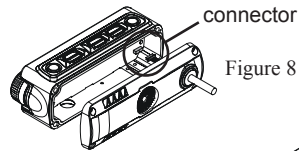
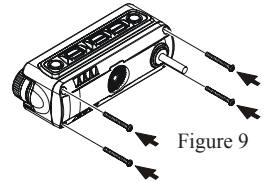

Figure 8
Figure 9
7. Attach the Connection Cable to the Printed Circuit Board (Figure 8), and then replace the Rear Case to the Front Panel using the previously removed four screws (Figure 9).